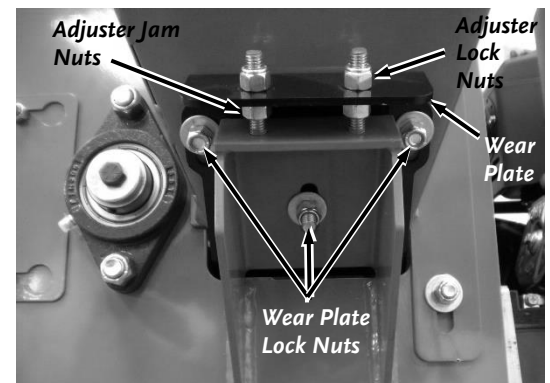

Figure 31
- a. Loosen the three Lock Nuts that secure the Wear Plate to the Chipper Hopper using a 9/16" Wrench (**Figure 31**).